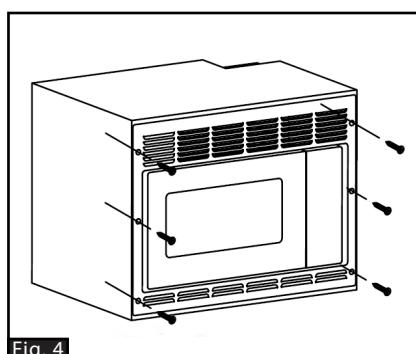

Fig. 4
5. Attach the microwave oven to the cabinet with 6 - M3x25mm screws (Fig. 4).